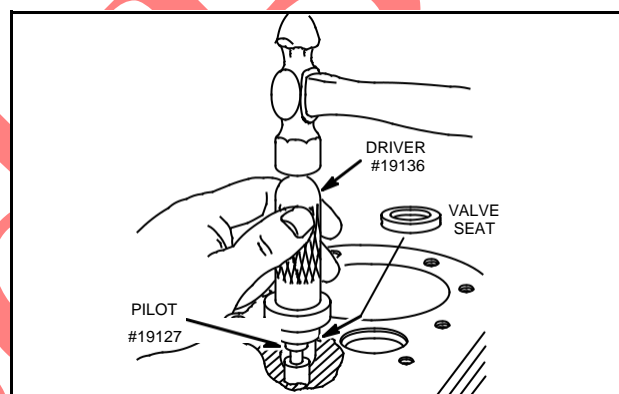

Fig. 26 – Install Valve Seat
3. Drive seat insert in until it bottoms, Fig. 26. Top of insert will be slightly below cylinder head gasket surface.